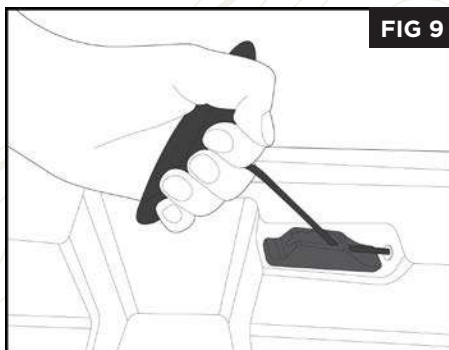

FIG 9
5. Deploy the drive for operation by aligning the motor with the console opening, pulling the deployment line handle located to the left of the seat, near the end of the footrail (**FIG 9**).